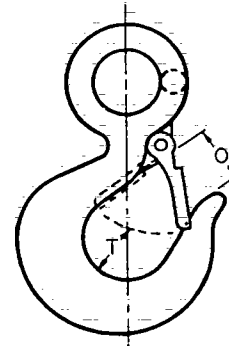

Figure 7-81. Standard Safety Eye Hook
3. A Standard Safety Eye Hook is illustrated in Figure 7-81.